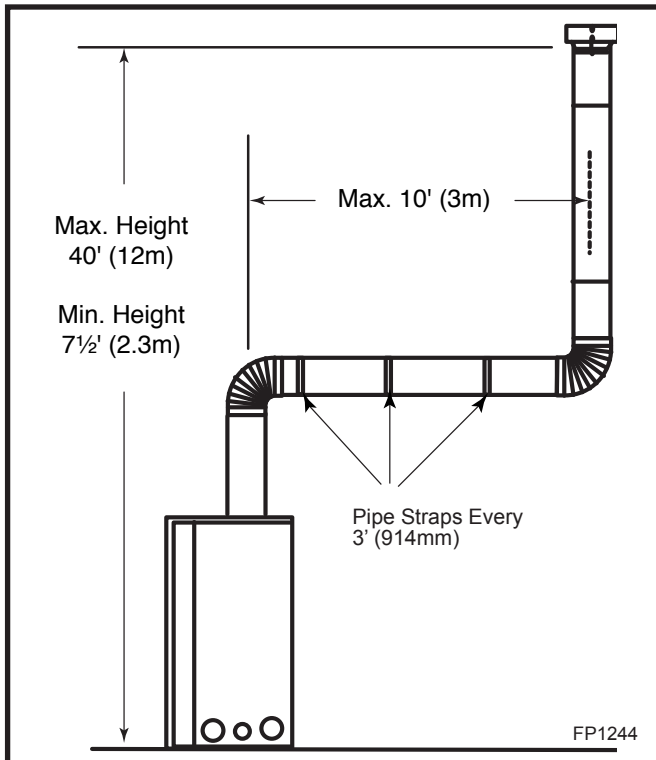

Fig. 30 Support straps for horizontal runs.
- Vertical installations up to 40' (12 m) in height. Up to a 10' (3 m) horizontal vent run can be installed within the vent system using a maximum of two 90° elbows. (Fig. 30)